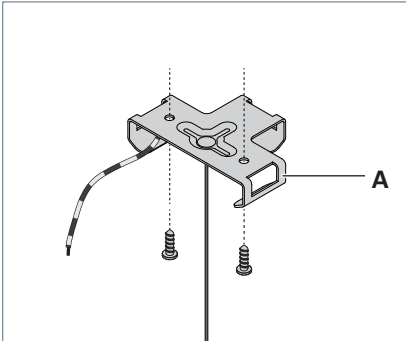

Fig. 6: Mounting the holding plate.
- ▶ Screw the holding plate **A** on the connection side of the luminaire to the ceiling using suitable screws, see Fig. 6.